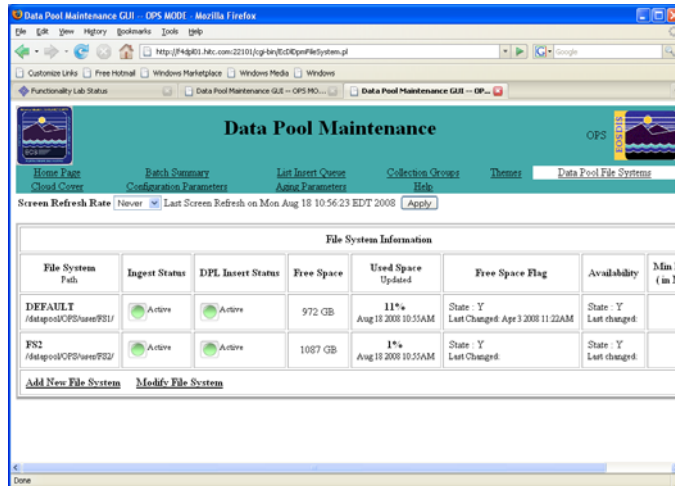

Figure 14.10-4. Data Pool File System Page
Figure 14.10-4 illustrates the Data Pool **File System Information** page that allows both full-capability and limited-capability operators to view a list of Data Pool file systems and obtain information on **Free Space Flag**, **Availability** for insert, and **Minimum Freed Space**. From this page, the full-capability operator is able to configure a new file system or modify an existing file system (which may include assigning Availability and/or No Free Space status).
- The **File System Information** page is displayed (see Figure 14.10-4).